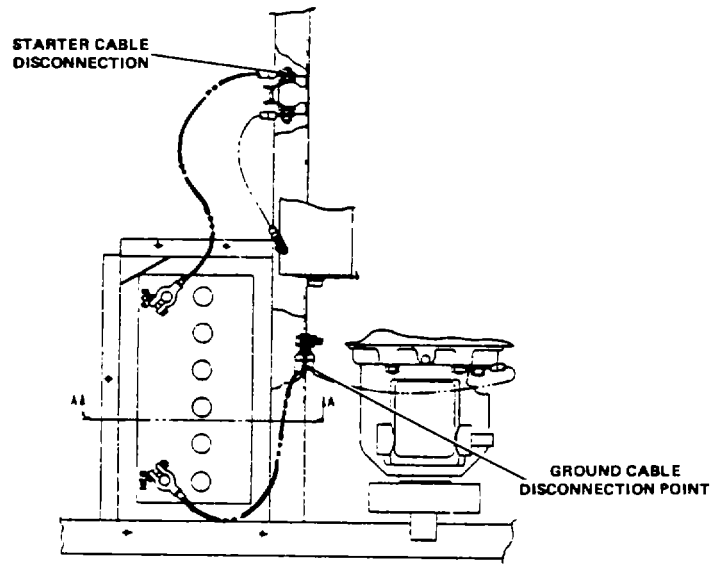
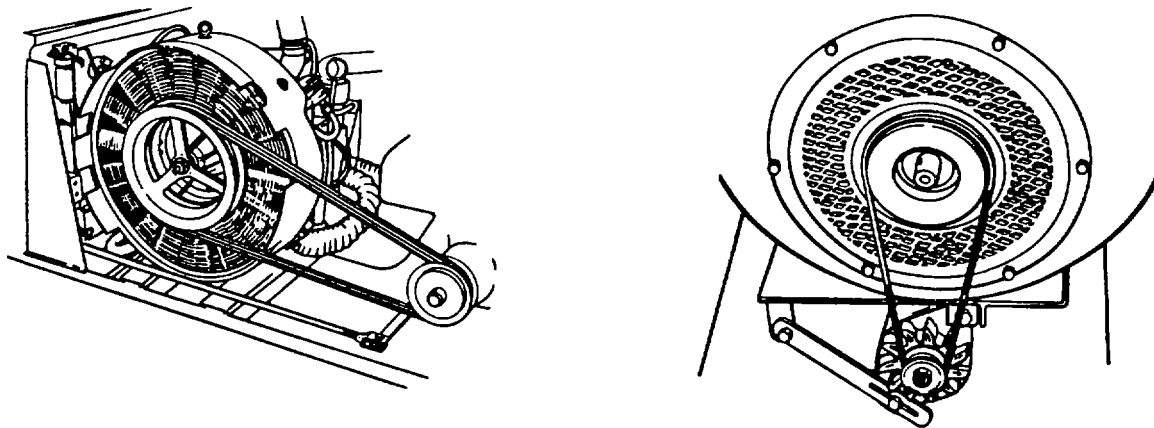

Figure 6-4. Cables
Figure 6-5. Drive Belts
- (4) Disconnect starter cable and ground cable. (Figure 6-4)
- (5) Disconnect main wire harness at throttle solenoid, magneto and oil pressure switch.
- (6) Remove four engine mounting bolts and nuts.
- (7) Remove drive belts for compressor and alternator. (Figure 6-5)